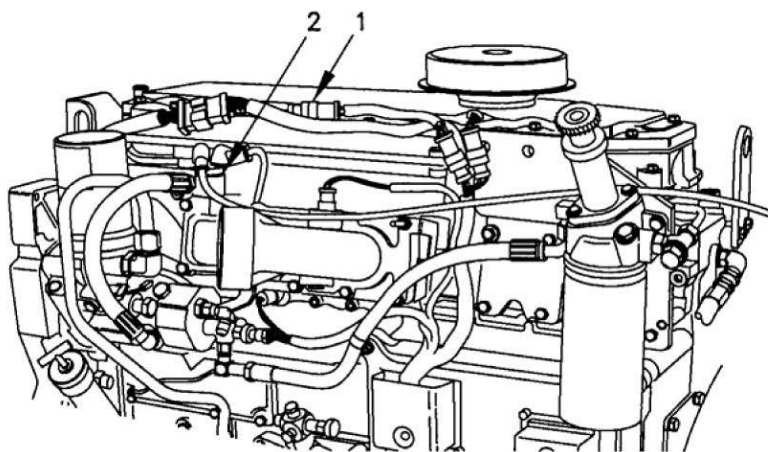

Figure 2. Air Inlet Heater Relay.
- Disconnect harness connector ENG-P101 (Figure 2, Item 1) from the air inlet heater relay connector (Figure 2, Item 2).